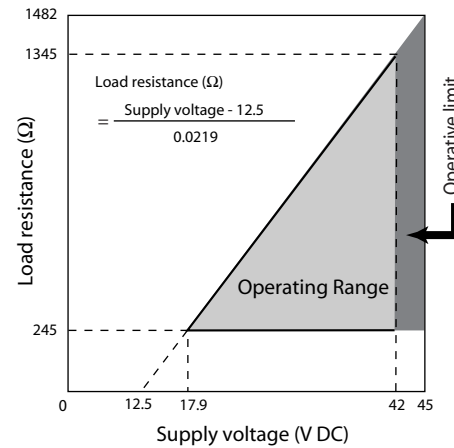

Figure 5 Supply voltage vs. load resistance characteristics
17.9 to 42V DC. A load resistance of 250 Ω or more is necessary between loops. See Figure 5.